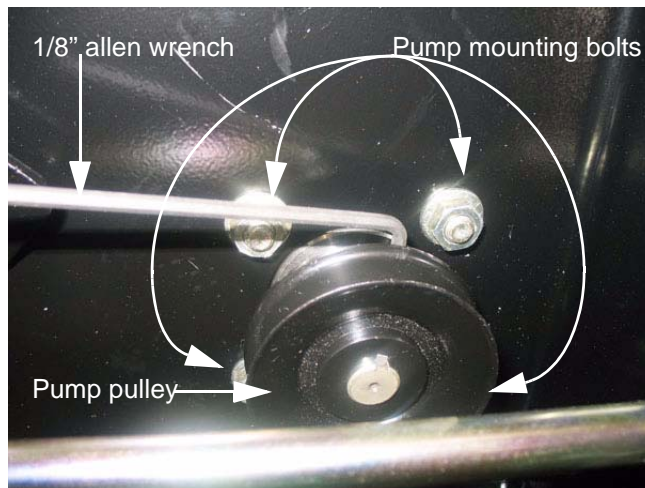

Figure 4.8
- 3.4. Loosen the set screw that holds the pulley to the pump shaft using a 1/8" allen wrench, and slide the pulley as far down on the shaft as possible. See Figure 4.8.
- 3.8. Unbolt the pump from the frame using a pair of 1/2" wrenches. See Figure 4.8.